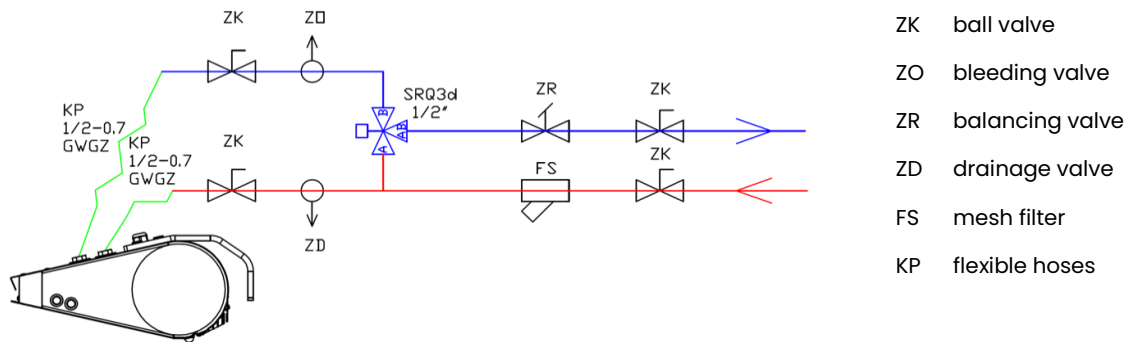

FIG. 17.3 AN EXAMPLE OF HYDRAULIC COMPONENTS CONNECTION.
3. Installation should be carried out in such a way that in the event of a failure it is possible to dismantle the device (use of flexible hoses is recommended). For this purpose, use shut-off valves next to the device (Fig. 17.3).